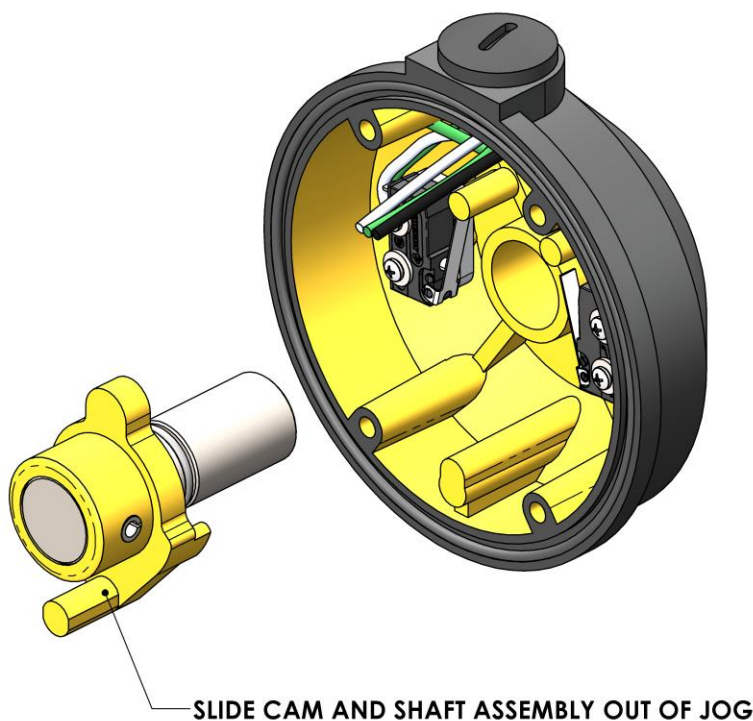

Figure 25: Removing cam assembly from the jog housing
11. Slide the cam and shaft sub-assembly out from the jog unit as shown in Figure 25. Be careful that the microswitch levers do not get pulled and damaged when pulling the cam sub-assembly out of the jog.